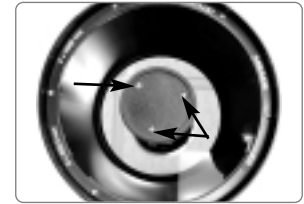

Fig. 33b: Collimation screws.
- a. The only adjustments possible, or necessary, on the SC-8 models are from the three screws (Fig. 33b) located at the edge of the outer surface of the secondary mirror housing.